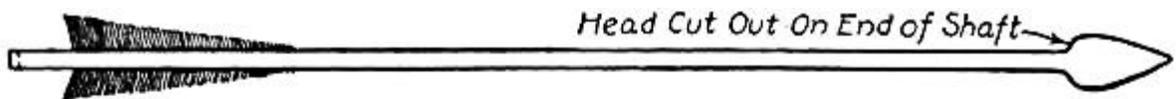

FIG. 244.
**To Prepare Arrow-heads** of stone or bone as the Indians did, for there are other schemes that are simpler to carry out. If the wood is reasonably hard, the heads can be cut on the ends of the shaft, as shown in Fig. 244. For target practice, a wire nail driven into the end of the shaft, as shown in Fig. 245, with the head of the nail filed off and pointed, has proven very good, and a thick piece of zinc or lead, cut the shape of A (Fig. 246) and set into a slot cut in the end of the shaft, with cord bound around the shaft to hold the metal in place, makes another excellent head. The metal points should be used only for target practice, and then with proper care, to prevent injury to yourself or companions.